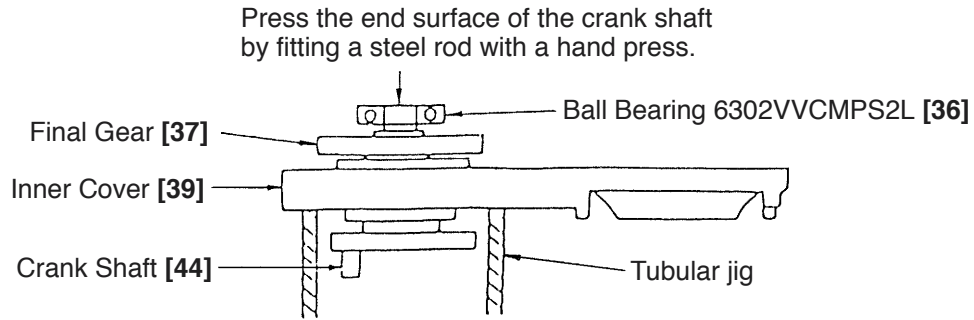

Fig. 14
(2) Disassembly of the Crank Shaft [44] section
First, remove the four Seal Lock Hex. Socket Hd. Bolts M5 x 16 [43] which fix the Bearing Cover [42]. Then, as illustrated in Fig. 14, support the lower surface of the Inner Cover [39] with an appropriate tubular jig, align an appropriate steel rod with the end surface of the Crank Shaft [44], and press down on the steel rod with a hand press. The Ball Bearing 6205DDCMPS2L [41], Distance Ring (B) [38], Final Gear [37], two Woodruff Keys 4 x 16 [68], and Crank Shaft [44] can then be disassembled from the Inner Cover [39].